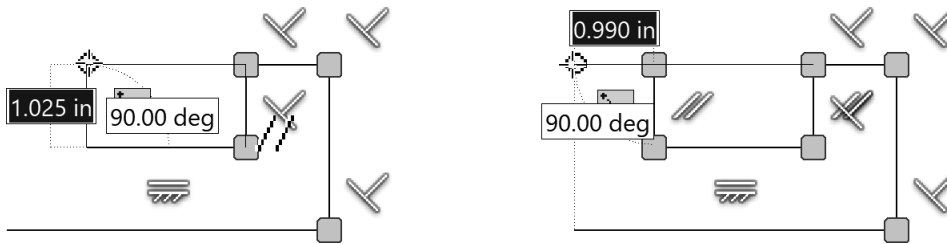

Figure 2.31
- 9 Move the cursor up and notice the perpendicular constraint symbol is displayed; to apply a parallel constraint instead, move (scrub) the cursor over the inside vertical line to create a relationship to it. Click when an *inferred line* (horizontal dotted line) appears from the top point as shown in Figure 2.31 left.
- 10 Move the cursor to the left until an inferred vertical line appears from the bottom-left point as shown in Figure 2.31 right and then click to locate the point.